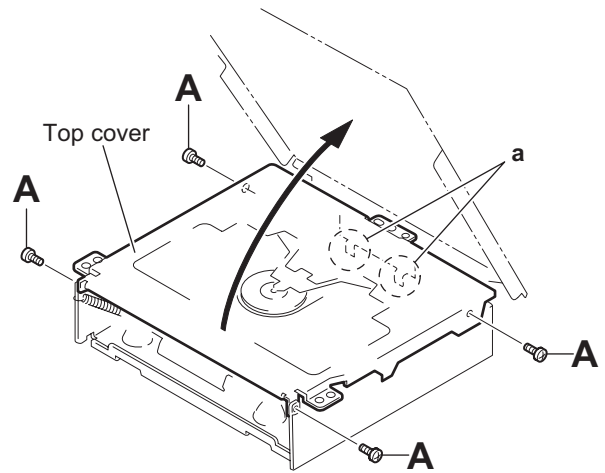

Fig.1
(See Figs.1 and 2)
- (1) From the both side of the CD mechanism assembly, remove the four screws **A** attaching the top cover. (See Fig.1.)
- (2) Lift the front side of the top cover and move the top cover backward to release the two joints **a**. (See Figs.1 and 2.)